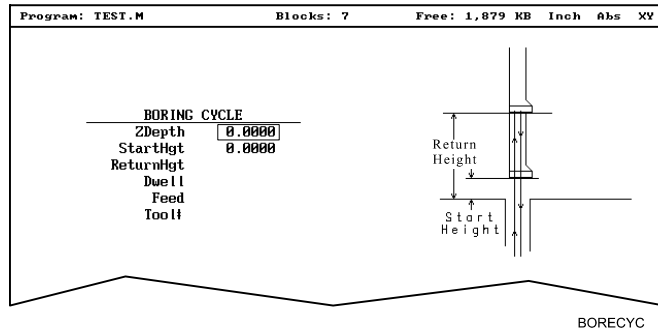

Figure 4-3, BORING CYCLE Graphic Menu
2. Highlight **Boring** and press **ENTER** to display the **BORING CYCLE** Graphic Menu. Refer to **Figure 4-3**.